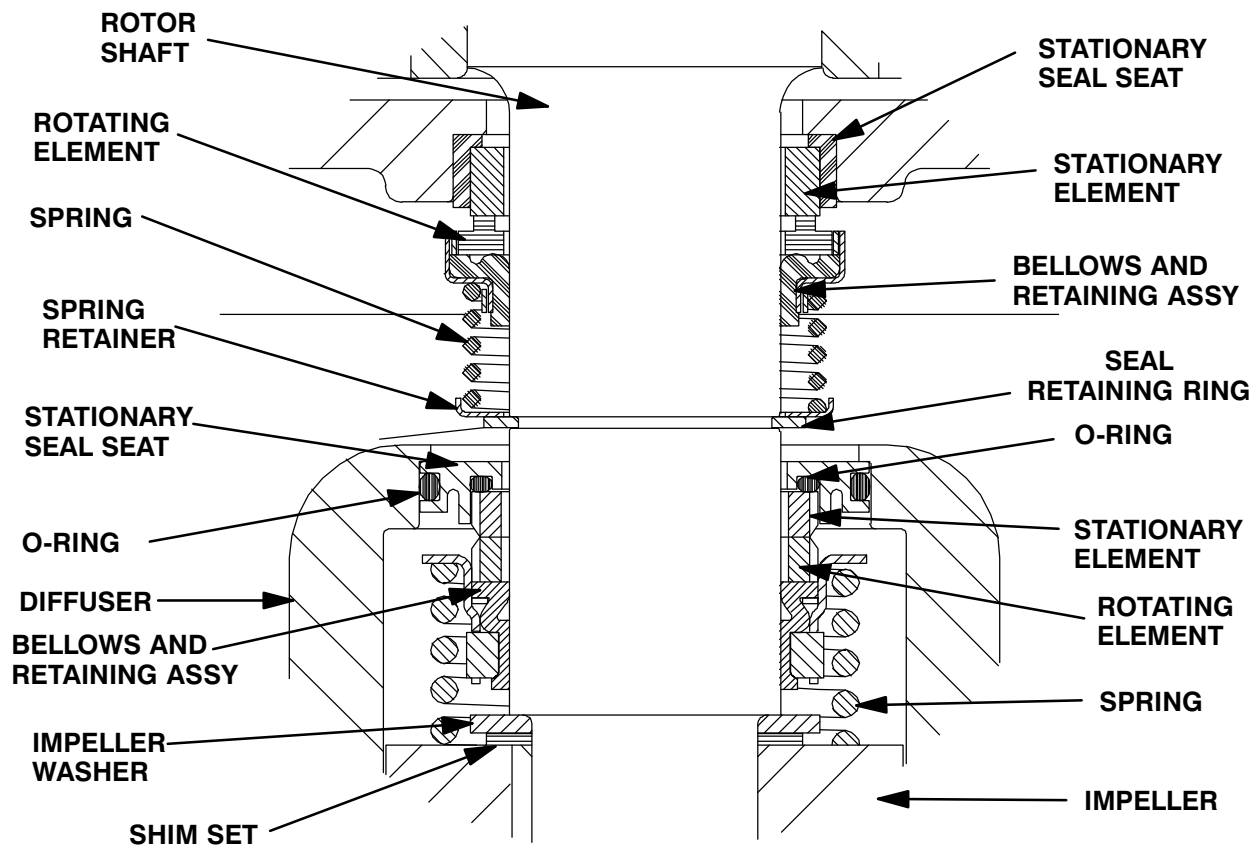

Figure E-3. Upper And Lower Seal Assemblies
Install the shaft seals as illustrated in Figure E-3.
Slide the seal spring over the shaft and bellows retainer, and install the spring retainer. Install the seal retaining ring (66). See Figure E-3 for the proper order of seal assembly.
Slide the seal spring over the shaft and bellows retainer and install the spring retainer. See Figure E-3 for proper order of seal assembly.